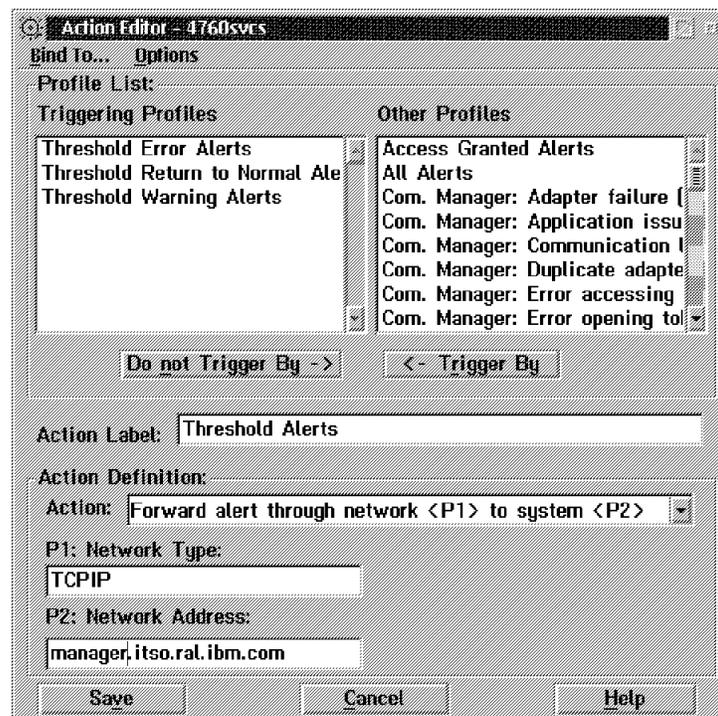

Figure 101. Defining an Alert if CPU Threshold is Reached.
5. From the Other Profiles list, select **Threshold Error Alerts, Threshold Return to Normal Alert** and **Threshold Warning Alerts** and click on the **Trigger By** button (see Figure 101).